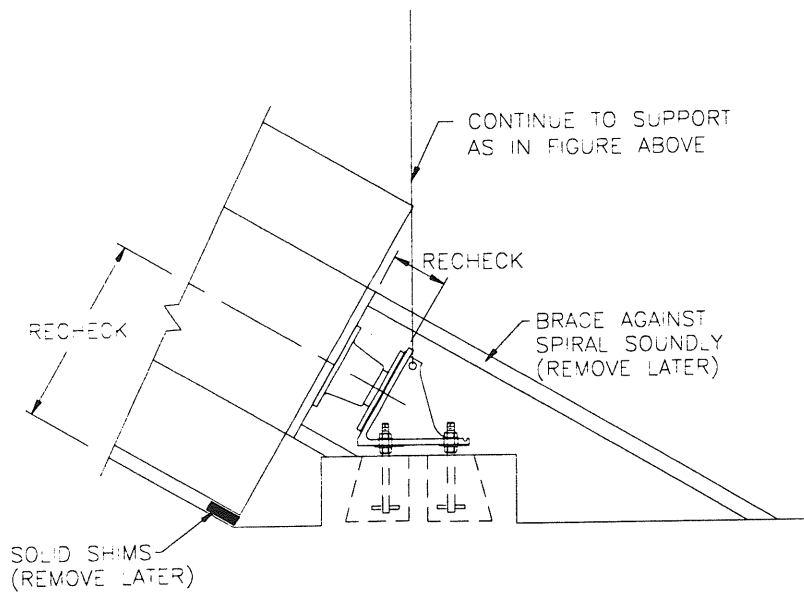

Figure D6
- c. Shim under the bottom flights. Rest the screw on the shims. Install a temporary brace against the bottom of the screw. Check dimensions shown in Figure D6.